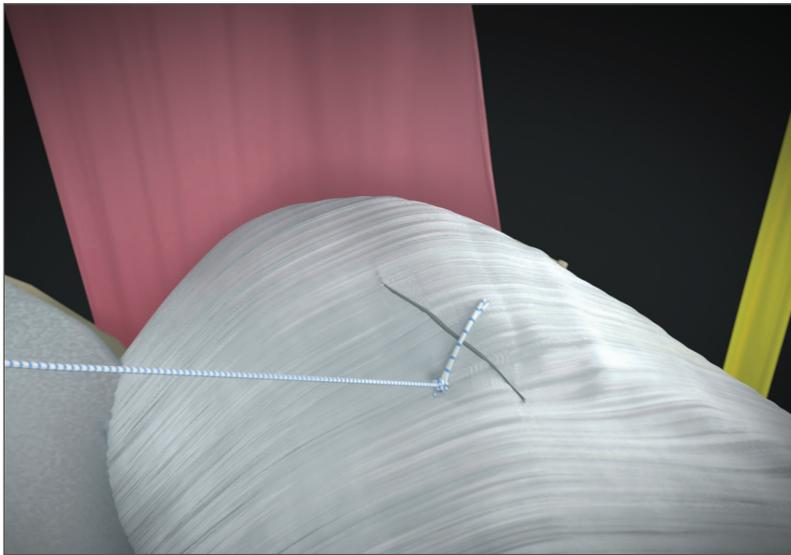

Figure 9
14. Gently tug the free end of the suture to advance the pre-tied sliding knot. This will reapproximate the tissue, bringing the articular disk to the ulnar capsule and therefore closing the tear. (See **Figure 9**)